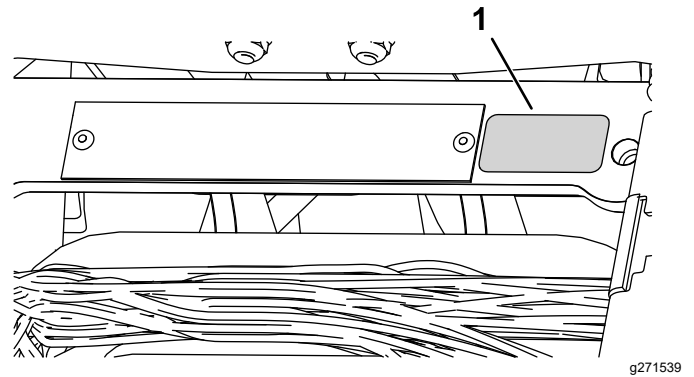

Figure 9
- Install the production year decal near the serial plate (Figure 9).